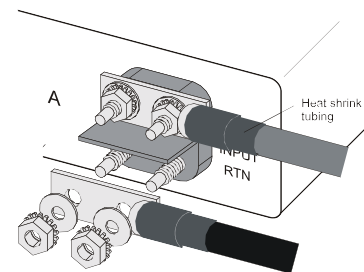

Figure 10 - Compression Lug Inputs
- d. Connect the lugs to Feed A and B input terminals on the back of the panel using the ¼-20 KEPs nuts and washers provided, as shown in Figure 10.